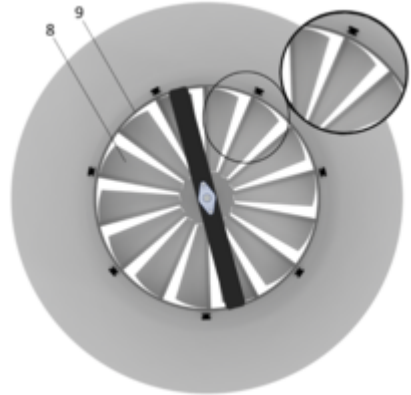

Fig. 14: Swirl element
10. ▶ Make sure the swirl element (Fig. 14/8) does not come into contact with the discharge nozzle (Fig. 14/9).